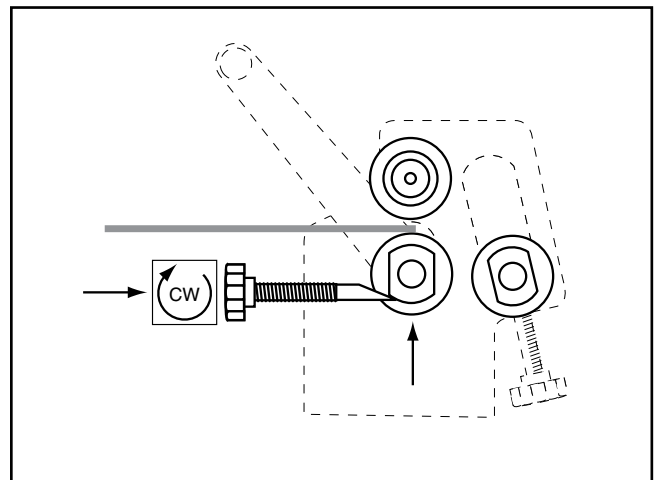

Figure 19. Raising bottom roller.
1. Place the workpiece between the top and bottom rollers, as shown in **Figure 19**. Turn the thickness adjustment knobs to lift the bottom roller until the workpiece is held snug between the top and bottom rollers. Be sure to turn the thickness adjustment knobs equal amounts.